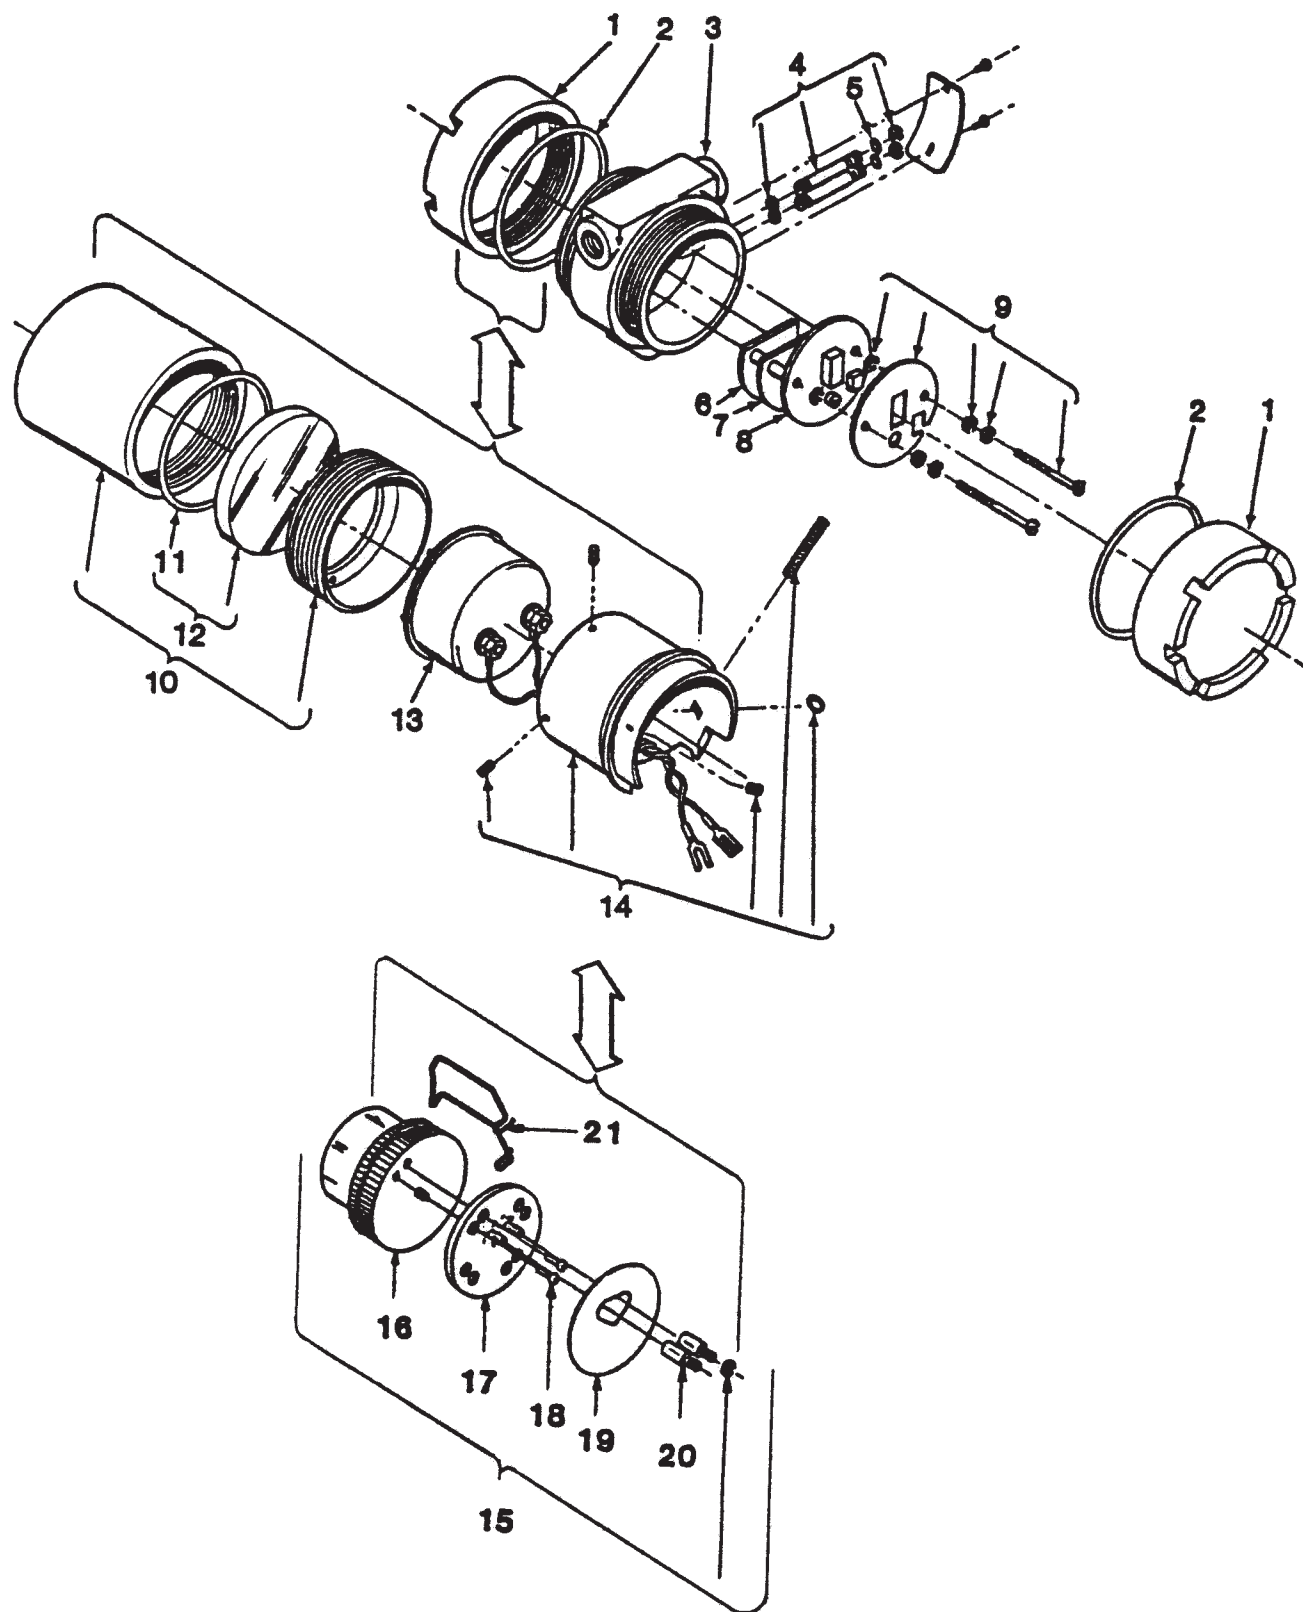

FIGURE 9-1. Model 1181PB Two-Wire Transmitter Parts
7.1 DISASSEMBLY PROCEDURE. Disconnect the power to the transmitter prior to disassembly. (see Figure 9-1 for item numbers also see Figure 3-3).
3. Align the Zero and Span potentiometers (R29 & R23) located on the driver circuit board (7) to the horizontal position, with blades perpendicular to PCB's (6) and (7) (see Figure 9-1).
4. Place the circuit board assemblies (6, 7, 8, 9) into housing by first aligning the connector pins with the terminal receptacles in the base of the housing (3) and then pushing straight in on the signal conditioning board (9).
5. Install the matrix cover (10) and secure with screws and washers. The matrix cover is secured to the screws with nylon split washers, so install the screws in equal increments, so the matrix cover is not damaged.
6. Inspect the thread connections on housing (3) to make sure five undamaged threads will fully engage.
7. Replace O-rings (2) on housing (3). Use new O-rings if the old ones were damaged.
8. Install covers (1,14) or meter housing (11) on transmitter housing (3).
9.1 SPARE PARTS. (Refer to Figure 9-1 for the following spare parts list for the Model 1181PB.)